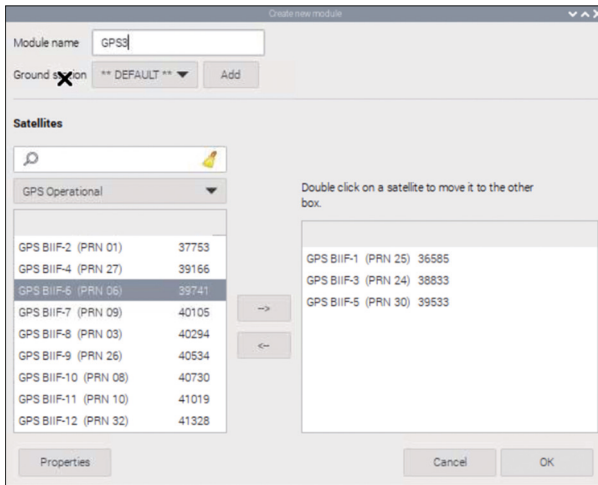

Figure 17.6: Select 3 GPS satellites.
- The process is similar to above but move the required satellite names to the right hand pane. Figure 17.6 shows the selecting of 3 GPS satellites.